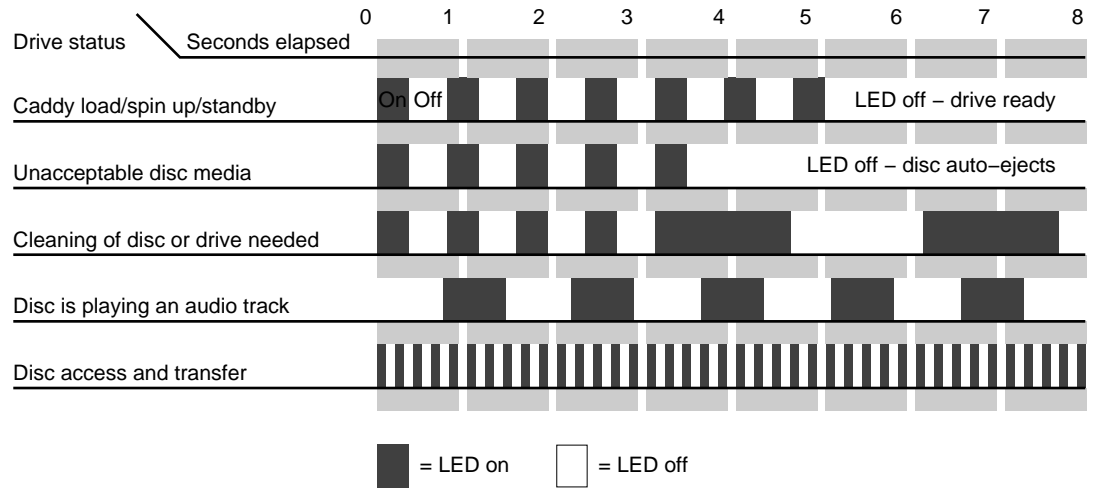

Figure B-2 CD-ROM Drive LED Status Indicators
- A *drive busy indicator LED* is located to the left of the eject button. When this LED is blinking, it indicates drive activity. The LED stays dark when no disc caddy is loaded in the drive. See Figure B-2 for details on blink patterns and the status they indicate for the drive.